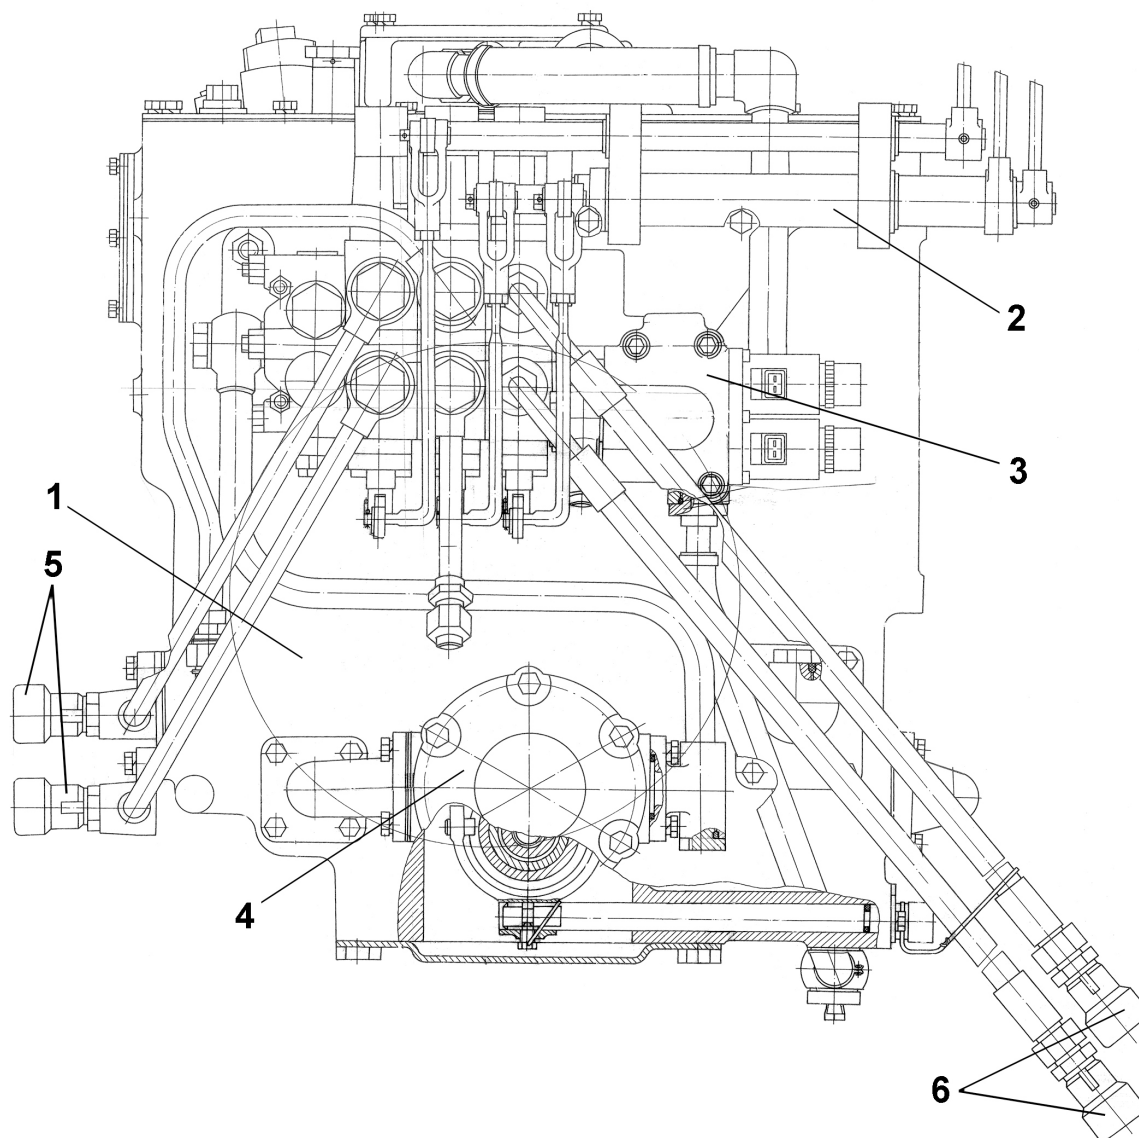

Fig. E-32. Casing of the hydraulic units assembled with the other ones
The functions of control of the RHL and hydroficated working members of the external consumers are implemented in the new hydraulic system (Fig. E-32) at the cost of the electro-hydraulic block (3)